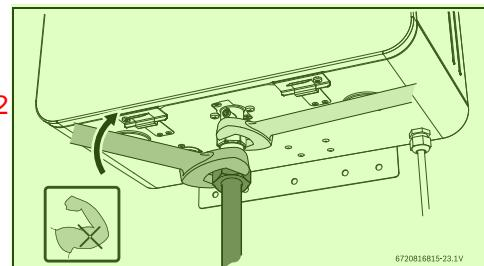

Fig. 24 Tighten gas pipe to the heater 22
- Tighten gas pipe with the support of a wrench, see fig. 24.